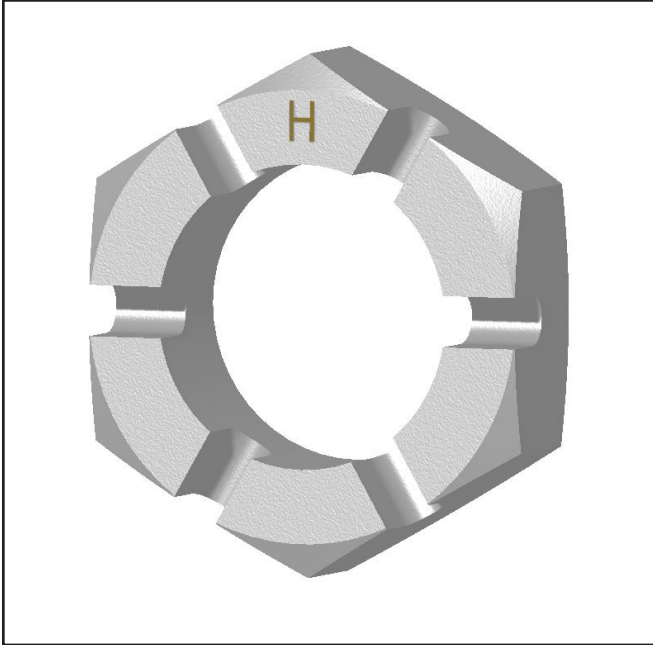
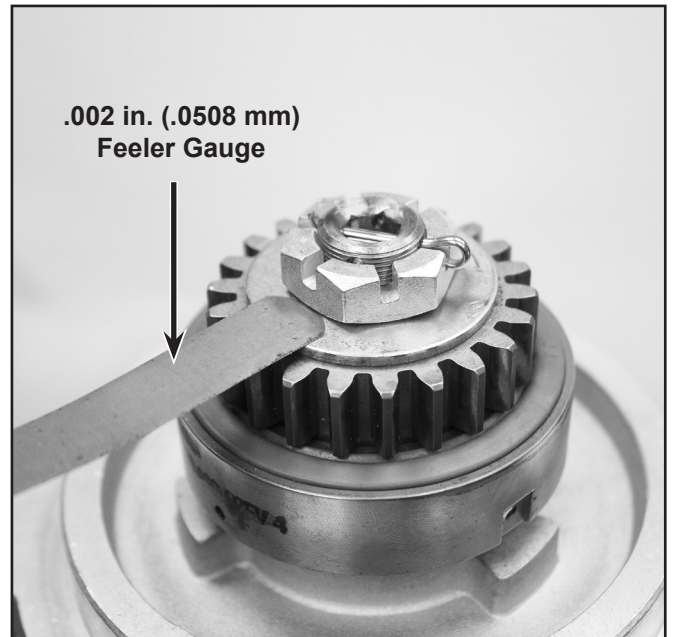

Figure 3 - Laser Etched "H"
Figure 6 - Gap Measurement
- (1) Remove the alternator from the engine in accordance with the latest revision of the aircraft and/or engine manufacturer's maintenance manual.
- (2) Inspect castellated hex-nut (1). If one the following indicators is present, the alternator is in compliance with this ASB. Refer to Figures 3 thru 5.
- (a) Hex-nut (1) is laser etched with the letter "H";
- (b) Hex-nut (1) is stamped with a center-punch;
- (c) A machined groove is present around the hex-nut (1) face.
- (3) If any indicator stated above **is not** present, proceed to 3.B.(4). If one of the indicators stated above **is** present, continue to 3.B.(7).
- (4) Using a .002 in. (.0508 mm) feeler-gauge, measure the gap between the nut thrust face and the thrust washer at each of the six hex-nut flats. Refer to Figure 6.